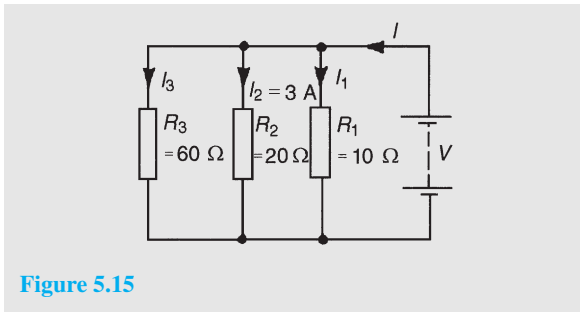

Figure 5.15
**Problem 8.** For the circuit shown in Fig. 5.15, find (a) the value of the supply voltage  $V$  and (b) the value of current  $I$